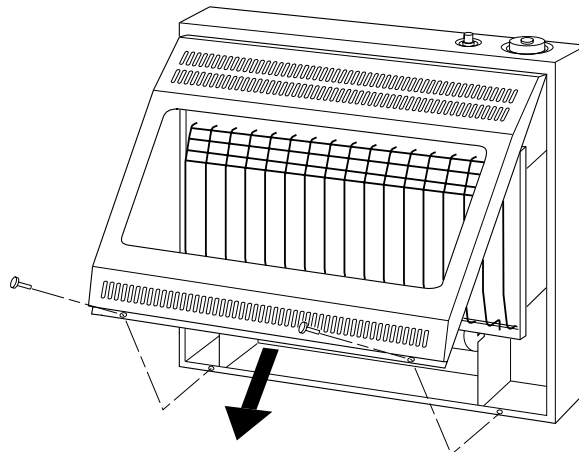

Figure 7 - Removing Front Panel Of Heater
1. Remove front panel of heater (see Figure 7, page 11).